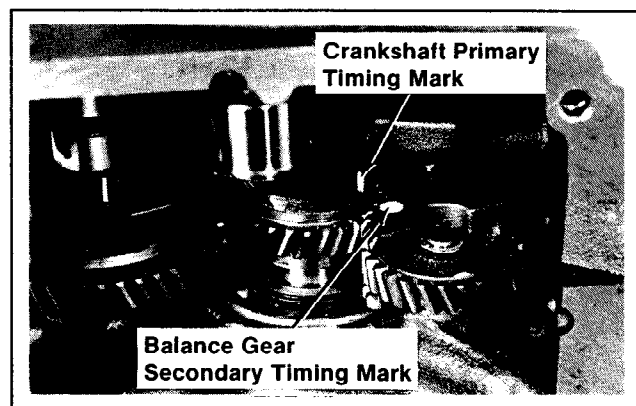

Figure 12-16. Checking Crankshaft And Balance Gear Alignment.
- The primary timing mark on crankshaft should align with the secondary timing mark on lower balance gear. Refer to Figure 12-16.
- The primary mark on crankshaft should align with the secondary timing mark on lower balance gear. Refer to Figure 12-16.